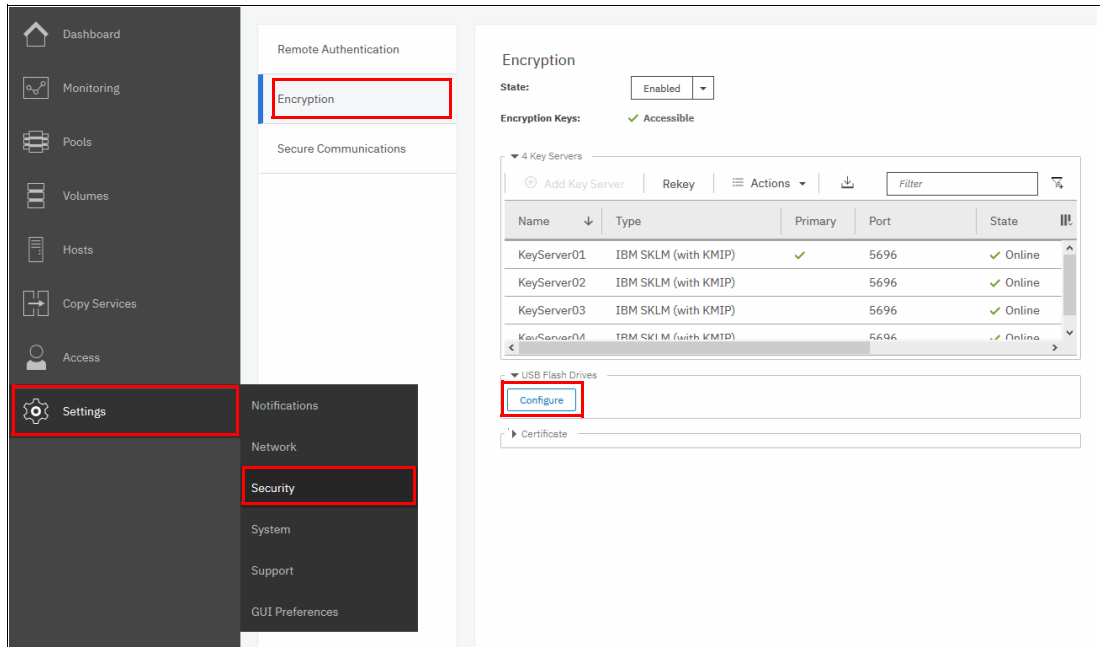

Figure 13-62 Enable USB flash drives as a second encryption key provider
- Click **Settings** → **Security** → **Encryption**, expand the USB Flash Drives section and then, click **Configure**, as shown in Figure 13-62 on page 775. To enable USB flash drives as a second provider, the system must access key servers with the current master access key.